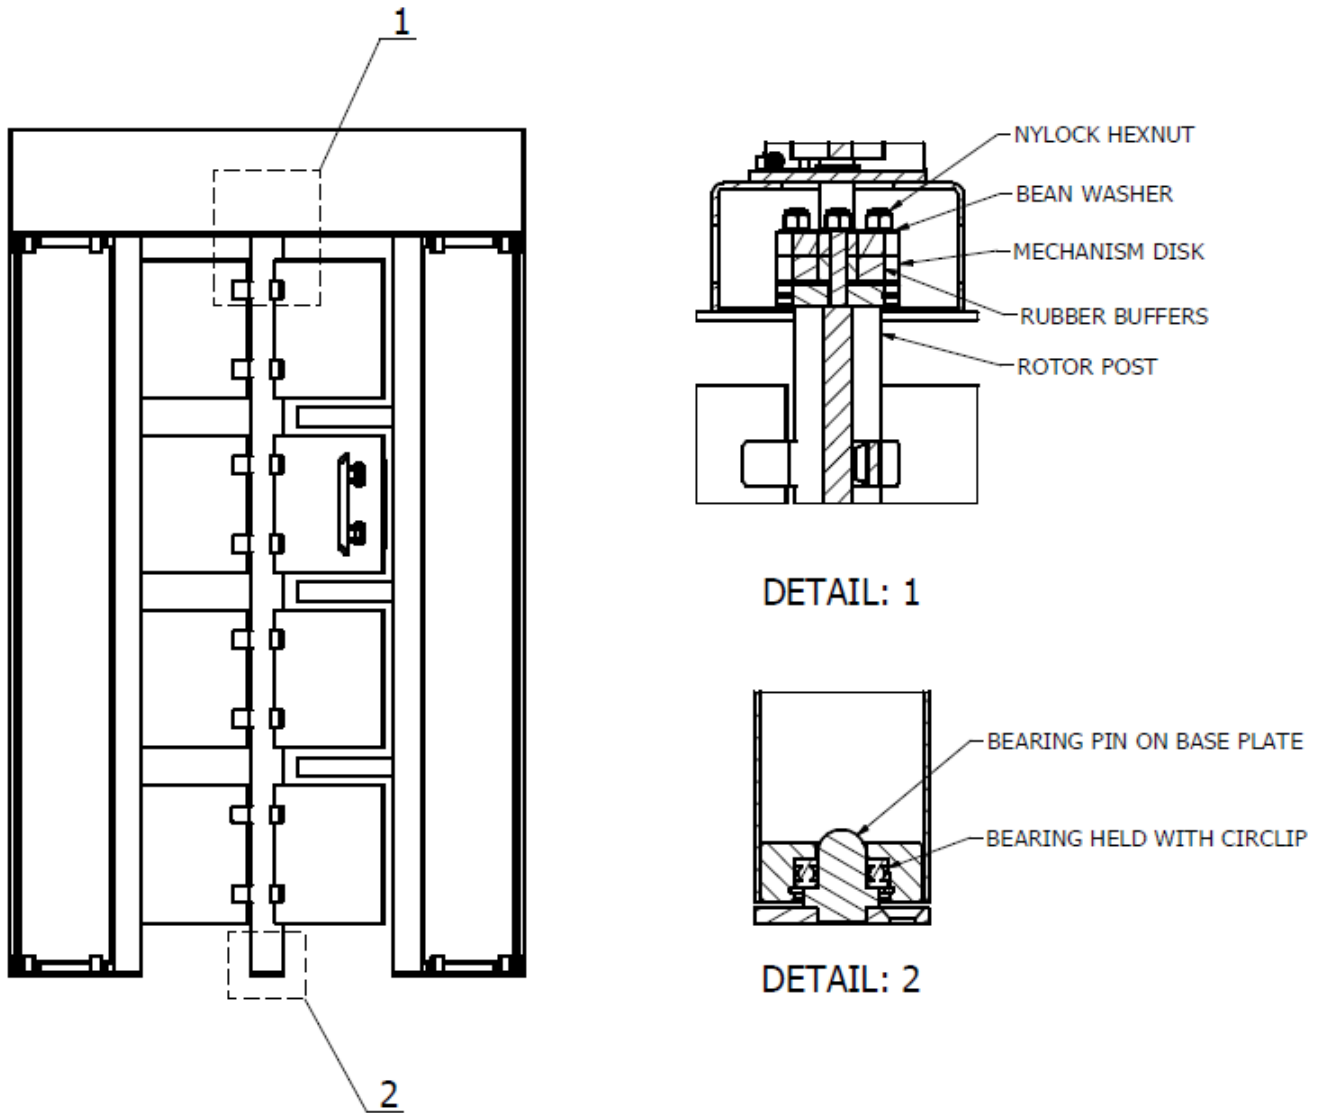

Figure 20: Placement of Parts for Rotor Assembly
- 8.5.7. Place the beam washers above the rubber buffers onto the studs and place the nylock hexnuts above the beam washers onto the studs. See **Figure 20: Placement of Parts for Rotor Assembly**.